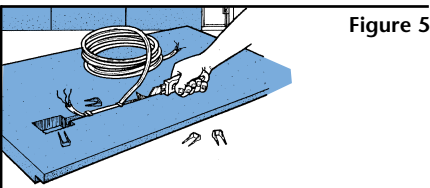

Figure 5
- To accommodate electrical wires, cut 1/2"-deep channel on the back of the insulation board with utility knife (Figure 5). Use electrical staples to hold wires in place.